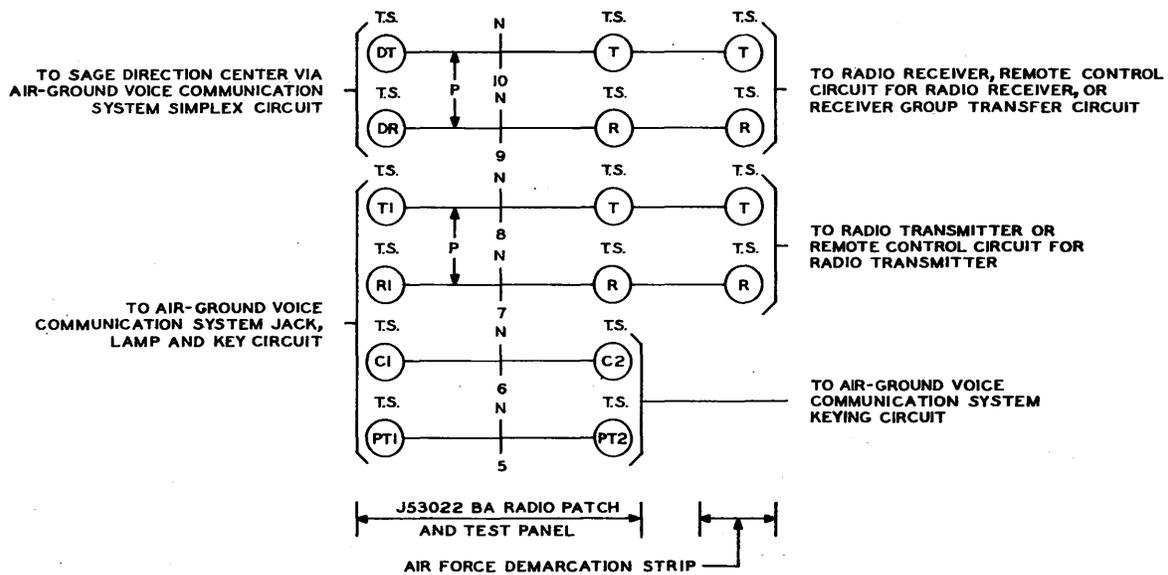

FIG. 2 — CHANNEL FROM THE SAGE DIRECTION CENTER
3.01 A radio equipment is assigned to each channel from the SAGE direction center and is connected to it through the break contacts of the unoperated *N* relay (Fig. 2).